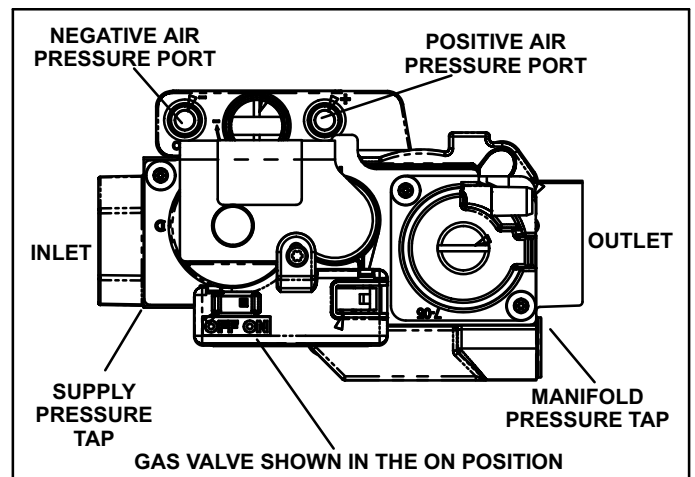

FIGURE 46
### Gas Valve Operation (Figure 46)
- 6 - Move the gas valve switch to the **OFF** position. See figure 46.
- 8 - Move gas valve switch to the **ON** position. See figure 46. Do not force.
When testing supply gas pressure, connect test gauge to supply pressure tap on the gas valve. See figure 46. Check gas line pressure with unit firing at maximum rate. Low pressure may result in erratic operation or underfire. High pressure can result in permanent damage to gas valve or overfire. See table 29 for operating pressure at unit gas connection (line).